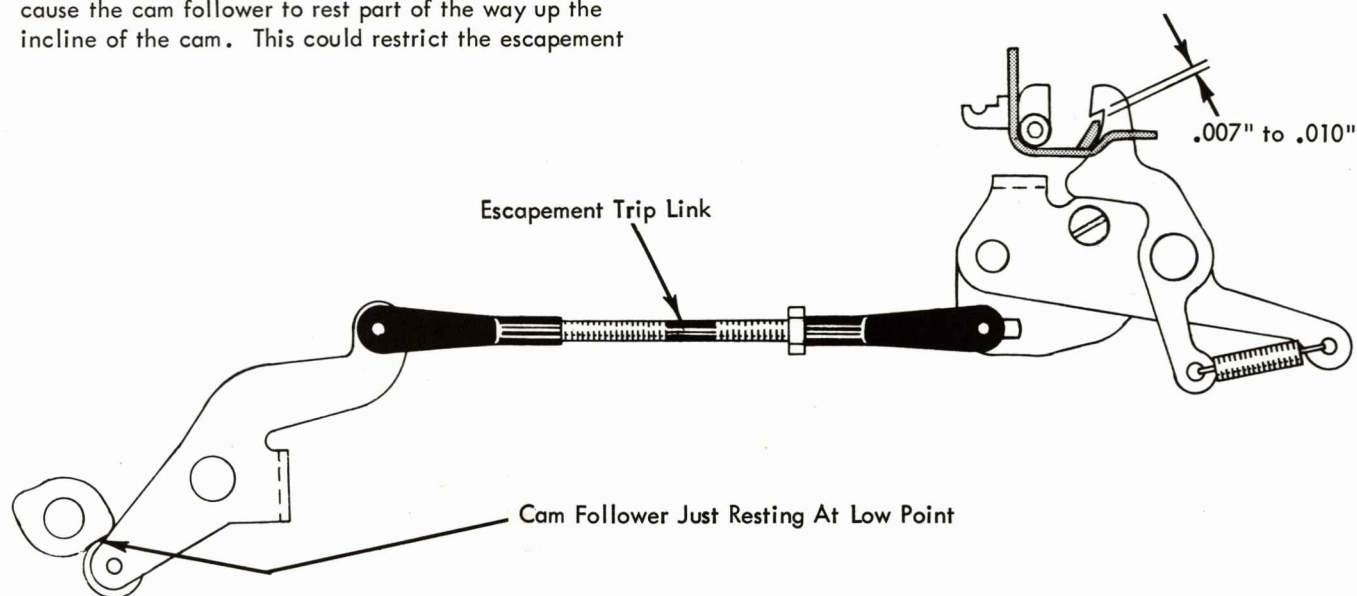

FIGURE 105. Escapement Cam And Link Adjustment
6. Escapement Cam - Adjust the cam by rotating it on the filter shaft so that the cam follower roller just reaches the low point of the cam at the rest position (Fig. 105).
7. Escapement Trip Link - Adjust the trip link so that a clearance of .007" to .010" exists between the torque bar lug and the hook of the escapement trigger in the rest position (Fig. 105).